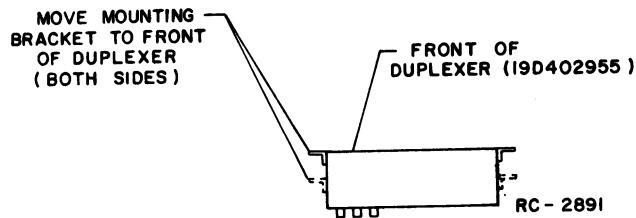

Figure 8 - Mounting Bracket Location for 19D402955 Duplexer
19D402955, modify per Figure 8 prior to installation.
2. For 30 inch cabinet, rack up Duplexer directly below Radio Housing using hardware supplied with the kit. Connect cables and Test by the following instructions. If the Duplexer is 19D402955, modify per Figure 8.